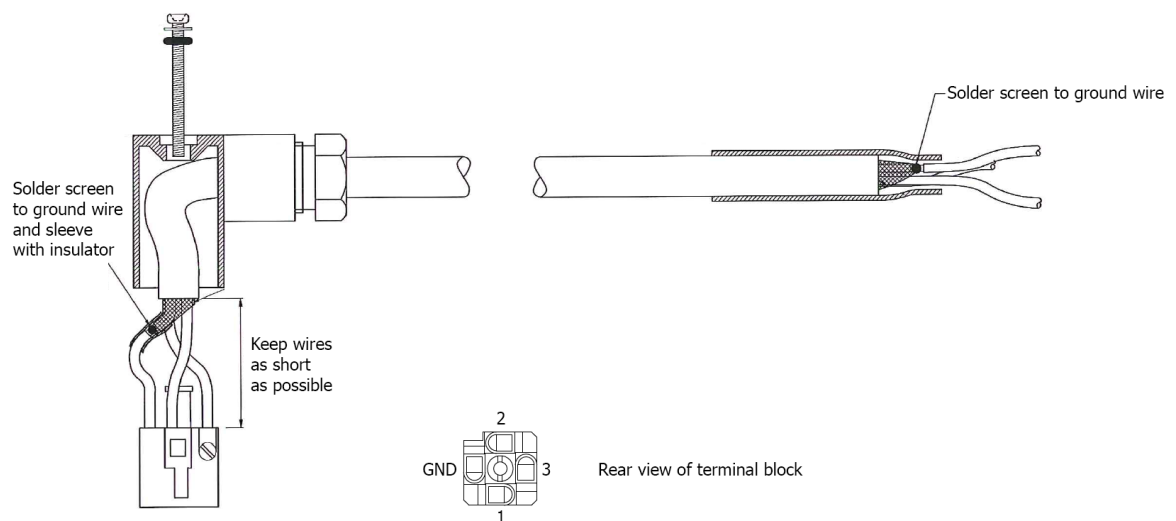

Figure 5 *Cable Assembly*
4. Cable should be assembled according to Figure 5.